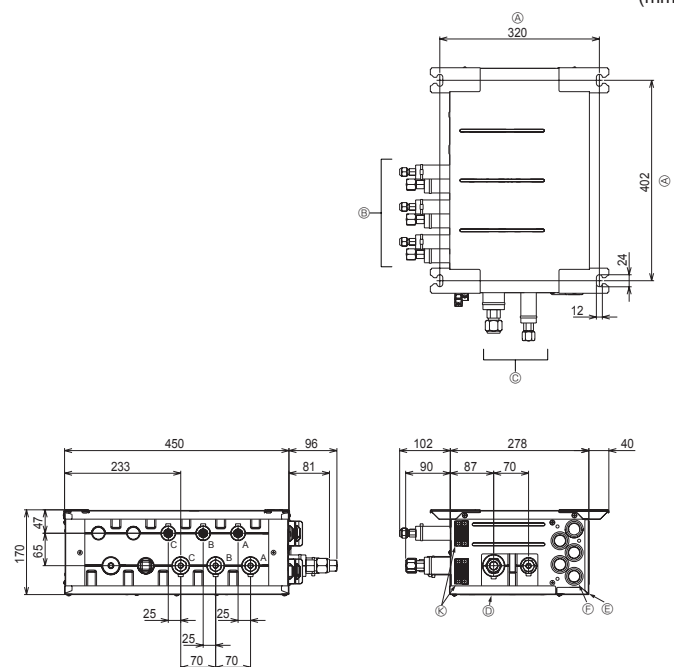

Fig. 4-3
② Remove the electric cover, service panel, and top panel.
■ PAC-MK31BC (Fig.4-3)